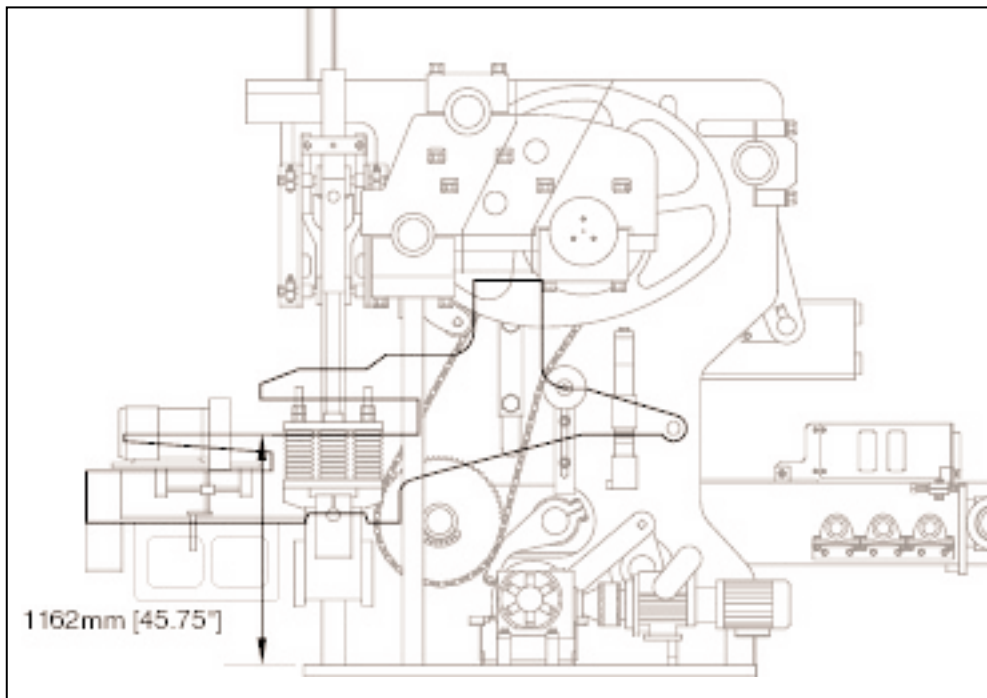

Figure 18.5 INNER FRAME ADJUSTMENT.
18.1.3 Adjust the inner frame so that the mold throat is **1162mm [45.75"]** above the top on the base plate (figure 18.5). **111mm [4.375"]** of spacers are required. To do so, follow these procedures: